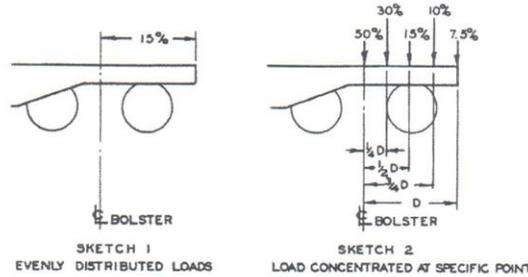

Fig. 3.1 Weight distribution from truck center to end sill
3.4.1.5.1 Load weight, uniformly distributed from truck centers to ends of car, must not exceed 15% of the stenciled load limit on each end. (See Fig. 3.1, Sketch 1.)
3.4.1.5.2 Point or concentrated loading between body bolster and end sill must not exceed the percentages shown in Table 3.1. (See Fig. 3.1, Sketch 2.)